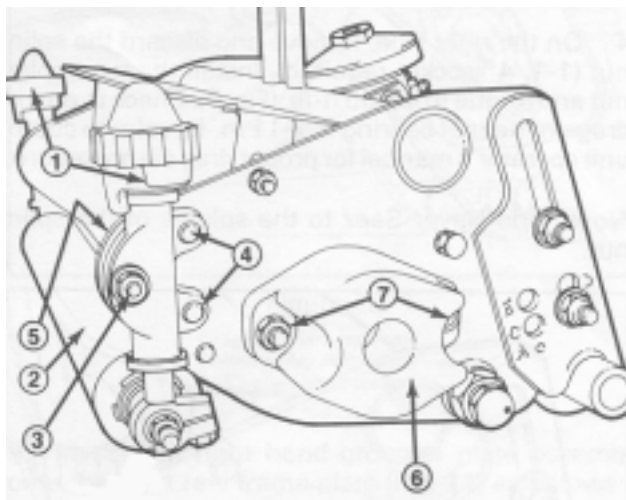
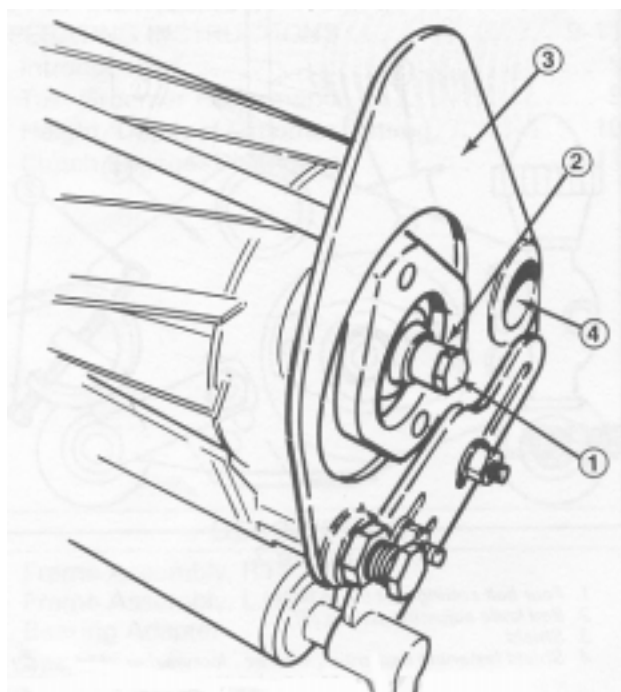

Figure 3
Figure 4
2. Remove the carriage bolts, flat head machine screws and capscrews securing the two front height of cut brackets and remove brackets and front roller (Fig. 3). Discard all parts except the roller.
3. Disassemble two locknuts and remove the left side counterbalance (Fig. 3) and remove the backlap screw (Fig. 4). Discard all parts.
7. On the left side, measure the reel shaft extension diameter (Fig. 4). The diameter, over the length of the shaft, must be between .621" to .626" to allow the clutch adapter to fit over the extension. If the shaft diameter exceeds .626" reduce it by hand rotating the shaft and applying a file or emery cloth. Ensure the internal shaft threads are free of rust and debris.
- C. Remove paint and flash from inside the reel frame tube (Fig. 4). Insert the mounting block into the reel frame tube and tighten socket head capscrew enough to hold the assembly in the tube.